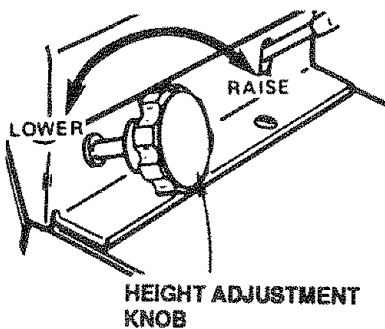

FIGURE 10
- Turn height adjustment knob counterclockwise (↺) to lowest position (Fig. 10)
- Turn height adjustment knob clockwise (↻) to the middle of its travel (Fig. 10).